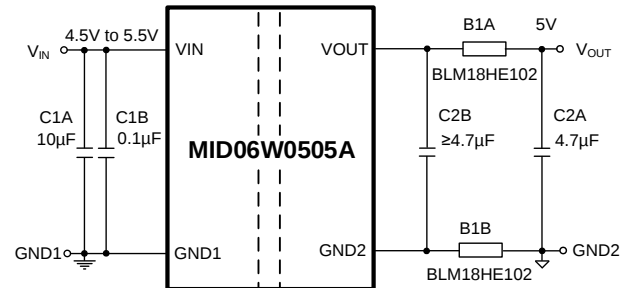
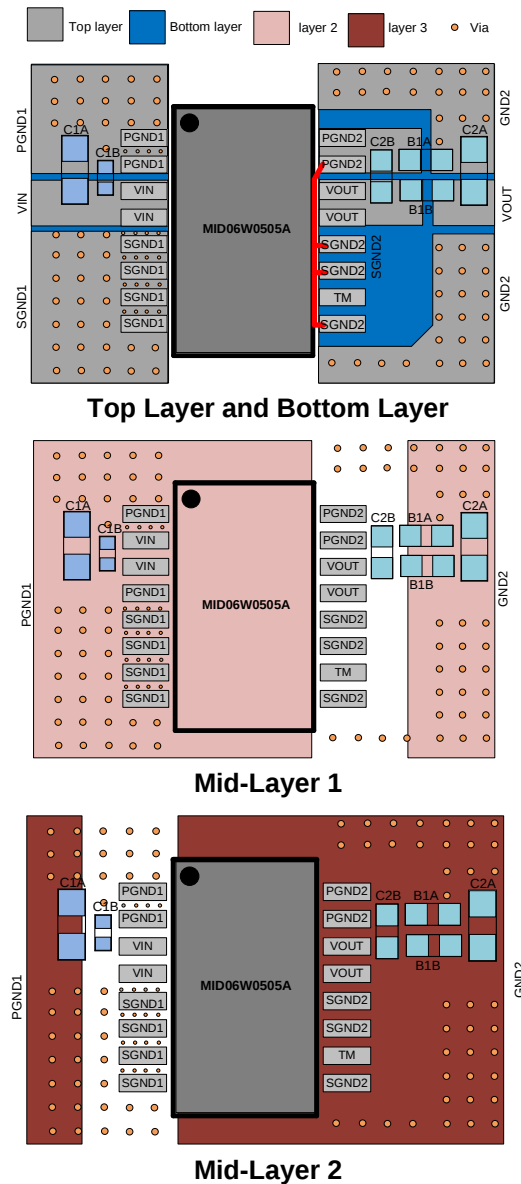

Figure 2: Recommended EMI Schematic
Figure 3: Recommended PCB Layout
8) See Figure 2 on page 9 and Figure 3 on page 10 for details on the EMI circuit and PCB layout.
Aside from the two PCB layout techniques described above, a pair of ferrite beads are required to form a CLC structure filter (see Figure 2). Place this filter as close to VOUT and PGND2 as possible. The capacitor closest to the IC (C2B) should be $\geq 4.7\mu\text{F}$ to ensure a stable output. Do not place large copper areas on the secondary side pins, as this can increase switching noise and EMI. Connect SGND2 and PGND2 using a thin trace.
Efficient PCB layout is critical for stable operation. For the best results, refer to Figure 3 and follow the guidelines below:
5. Connect SGND2 and PGND2 using a thin trace (below the red trace in Figure 3) to reduce radiation.